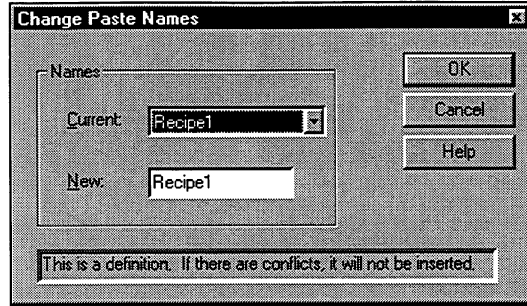

Figure 6-5. Change Paste Names Dialog Box
4. In the Application Navigator, select the Paste command on the Edit menu. The Change Paste Names dialog box appears, as shown in Figure 6-5.